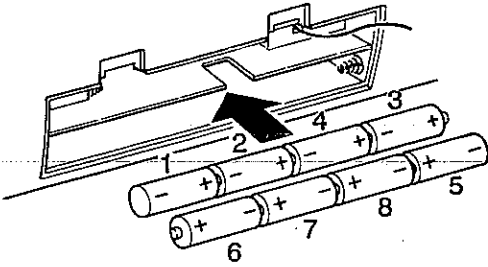

Fig. 2
3. Install 8 "D" size batteries (not supplied) into the battery compartment matching the polarity as shown on the back of the unit (Fig.2).